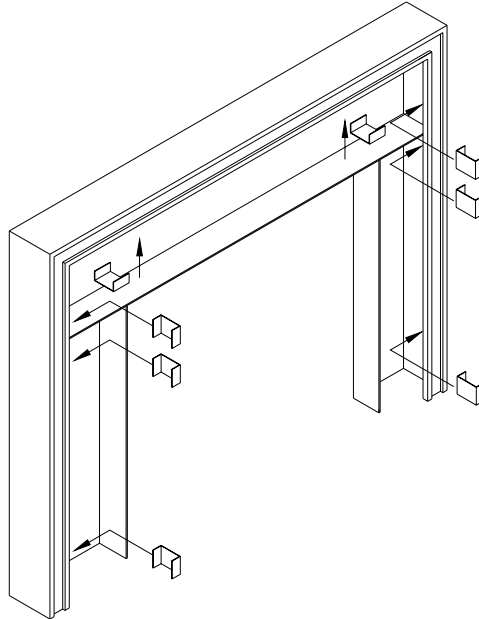

Figure 8
7. **BRASS INSTALLATION ON FACEPLATE:** Attach the mitred corners of the brass trim together using the corner brackets. Slide the assembled brass trim over the edge of the faceplate. See Figures 8 and 9.
Attach the left and right side brass to the top with corner brackets supplied. Slip the brass trim over the faceplate and snap the eight faceplate trim clips in place (see Figure 8).